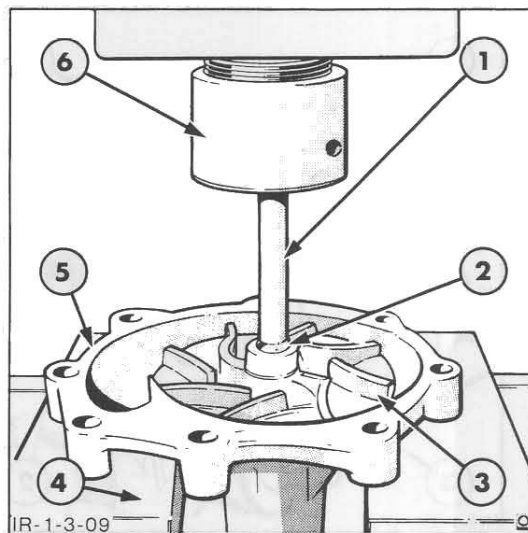

Figure 9
- Using a press and an adaptor with a diameter slightly smaller than the bearing shaft, press the bearing assembly out of the pump housing. Figure 9. Discard the bearing.